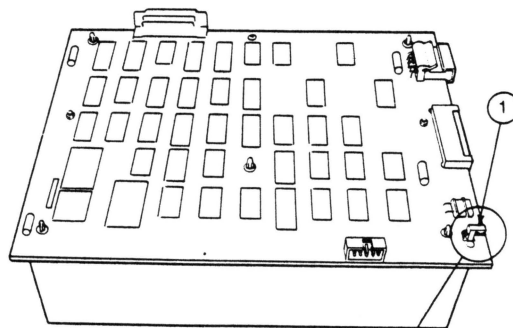

FIGURE 3
5. Unplug the LED cable from its socket on the controller board (Figure 3, #1).